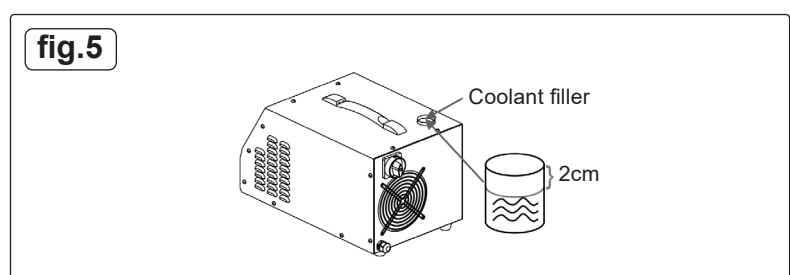

fig.5
- Coolant is filled via the top-fill tube located on the machine. See fig.5